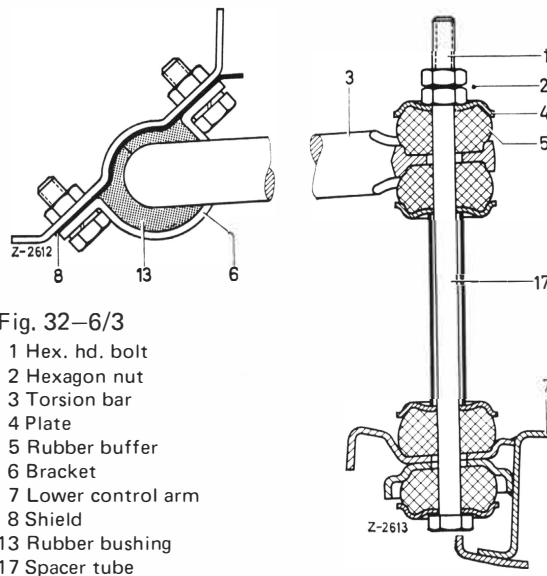

Fig. 32-6/3
3. Check whether rubber bushing (13) and rubber buffers (5) can still be used (Fig. 32-6/3).
4. Slide rubber bushing (13) over torsion bar and install torsion bar (Fig. 32-6/2).
5. Fit torsion bar mounting to frame/floor and attachment to lower control arm (Fig. 32-6/3). Ensure correct location of rubber buffers (5) and plate (4). Tighten hexagon nut (2) to thread end.